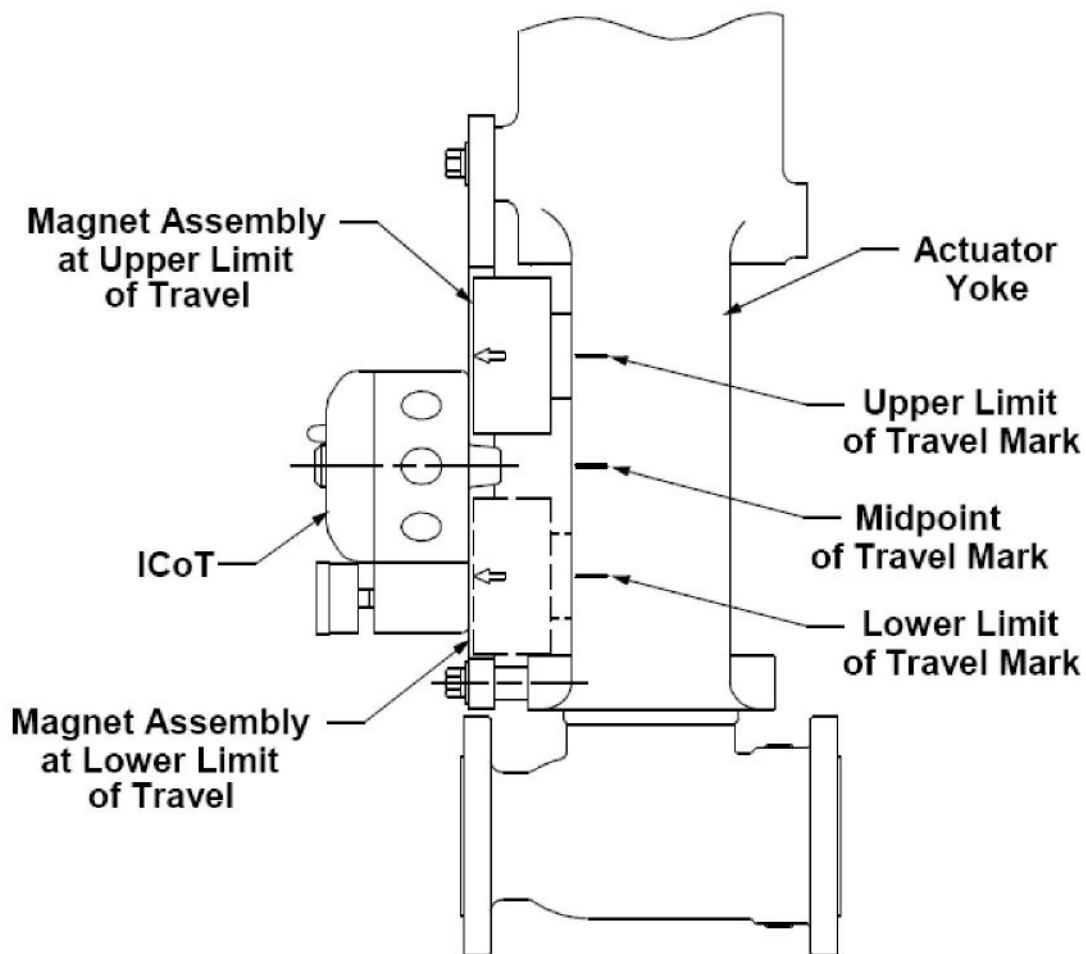

Figure 3-8
4. Lastly, mount the positioner to the bracket so that the positioner sensor (nose) of the ICoT lines up with the midpoint mark. (See Figure 3-8).